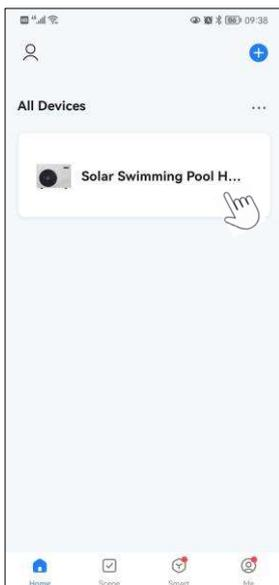

Fig.18 Added device list
10. The added device is displayed in the device list (Fig.18).